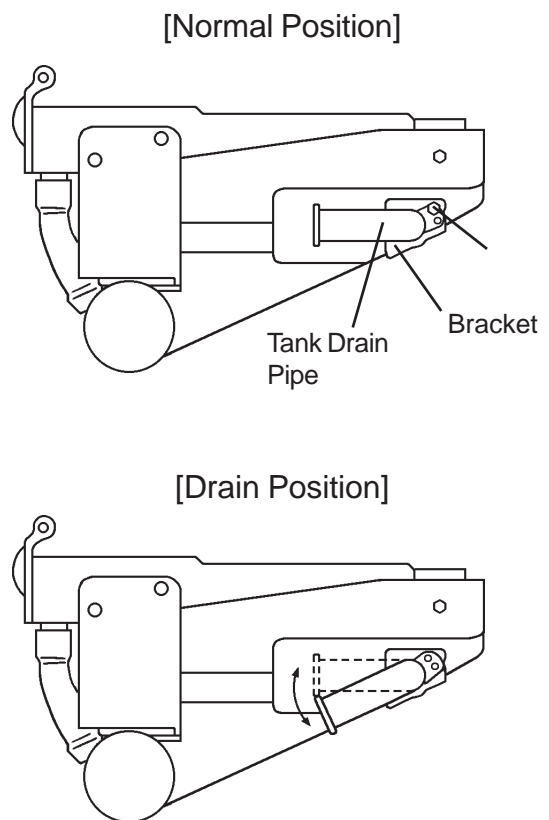

Fig. 13
- 4) Move the Tank Drain Pipe to the drain position. See Fig. 13.